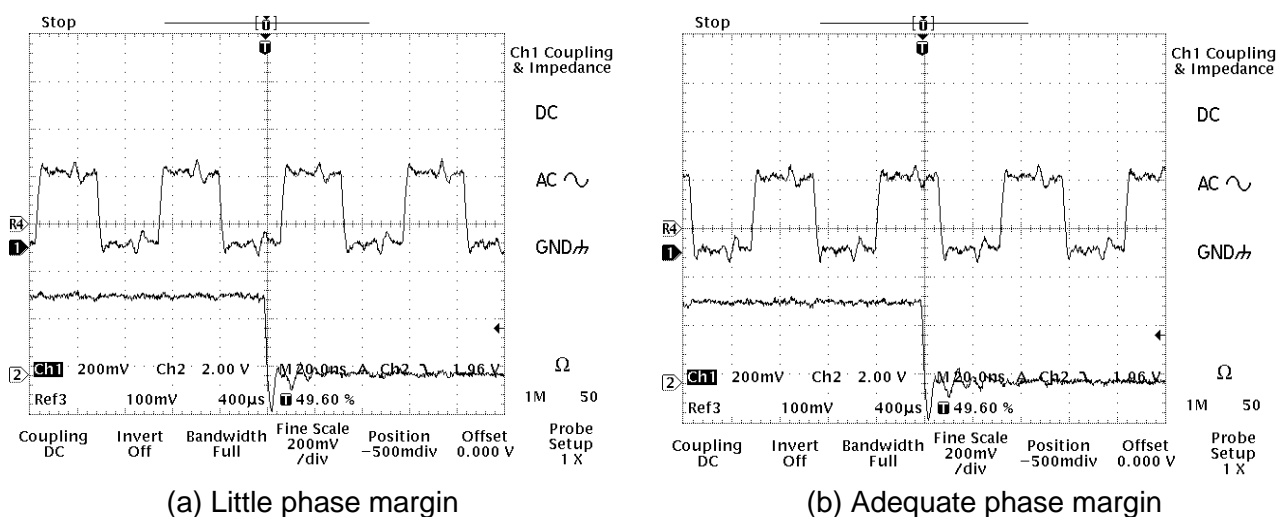

Figure 5-15: Phase Adjustment between Sync Signals and Clocks
4. If a noise is produced over the vertical edge of the display area when the PLL division ratio is changed, turn the *Clock Phase Invert* and *IP Clock Phase Invert* checkboxes on and off. Confirm the waveform. Fix the phase adjustment so that the fall edges of *V-sync* and *H-sync*, and the rise edge of *Clk* are not very close to each other. **Figure 5-15** shows the phase of the *H-sync* fall edge and that of the *Clk* fall edge. In (a), the *Clock Phase Invert* checkbox is turned on to increase the margin.